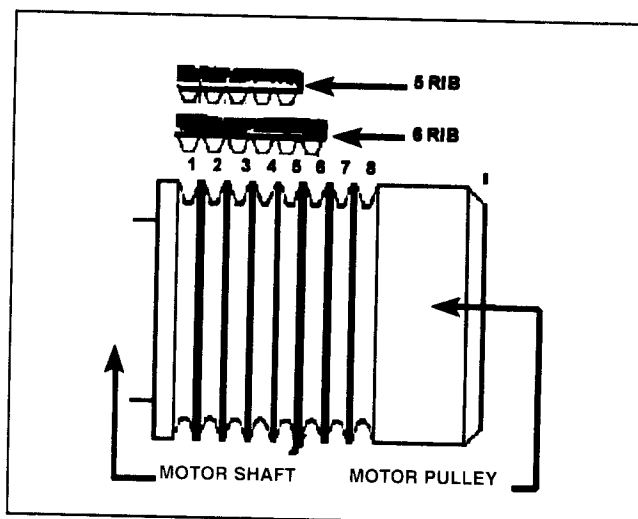

Figure 5
3. Position the belt onto the motor pulley with the ribs against the pulley. The motor pulley has 8 ribs and the belt has 6. Place the belt toward the motor end of the pulley into the first notch. **(See Figure 5)**